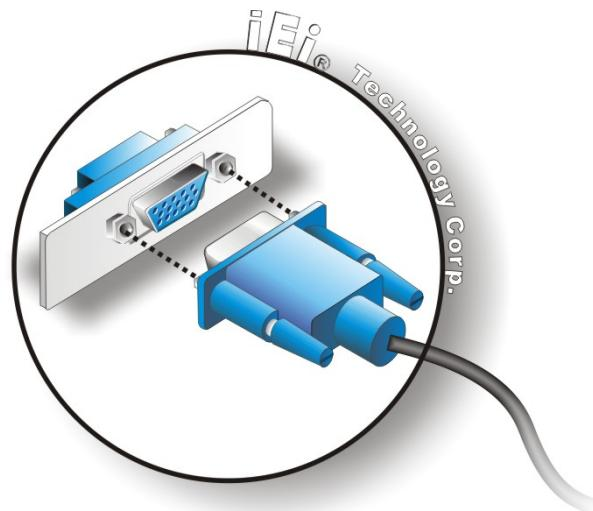

Figure 3-32: VGA Connector
Step 3: Insert the VGA connector. Once the connectors are properly aligned with, insert the male connector from the VGA screen cable into the female connector on the ECW-281B-D2550. See Figure 3-32.